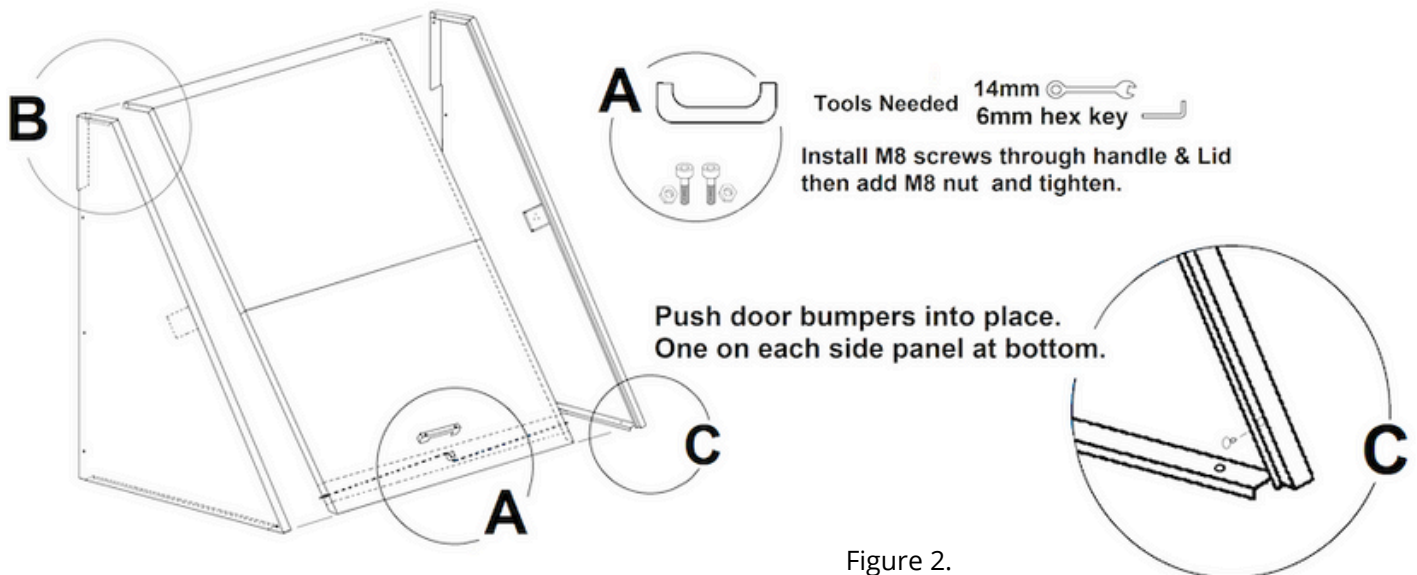

Figure 2.
a) If your locking enclosure panel has not been pre-drilled, you will need to drill (2) holes for the handle
c) Follow installation detail A from Figure 2. to install the handle